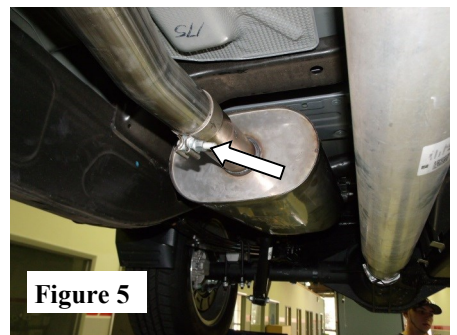

Figure 5
2. Place a clamp on the inlet of the **Muffler Assembly** and insert into the **Front Pipe Assembly**. Use a muffler stand or an assistant to hold into position. (See Fig. 5)